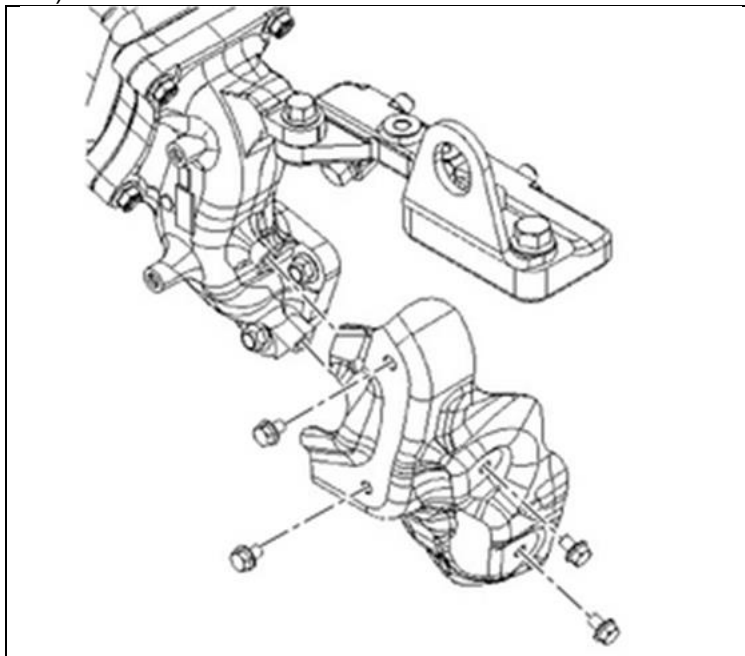

Figure 4
6. Remove the heat shield from the EGR cooler duct by removing the four (4) bolts. (See Figure 4.) Set the bolts aside for reuse later.
23. Install the EGR Cooler Duct heat shield with the four (4) bolts removed and set aside in Step 6. (See Figure 4.) Tighten the bolts to 10 N·m (87 lb·in).